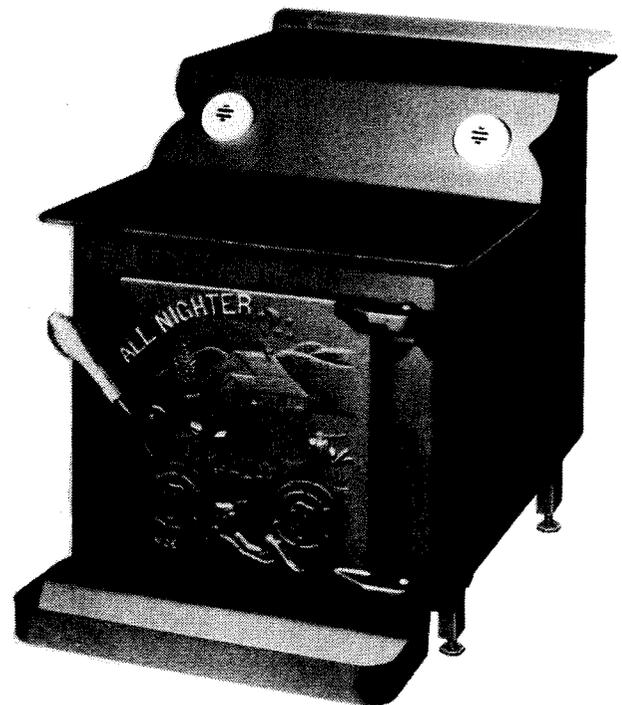

Fig. 56. Big Moe step stove.
1. **All Nighter Stove Works, Inc.** (manufacturer), 80 Commerce St., Glastonbury, CT 06033. The All Nighter Moe (Fig. 56 and Table 6) have a "Triple Air System Door," which is an air baffle on the back of the loading door creating a triple air flow. A built-in heat exchanger (called the "Hot Air Distribution System") consists of tubes through which cold air from the floor is convected (or blown) and heated before it exits the top of the stove from two chrome-plated directional air outlets. Optional hot-water system fits into a recessed hot-water jacket at the flue collar. Asbestos "Double Seal Door" makes each stove airtight. Blower, door screen, and hot-coal rake optional. Tiny Moe not available with hot water sys-